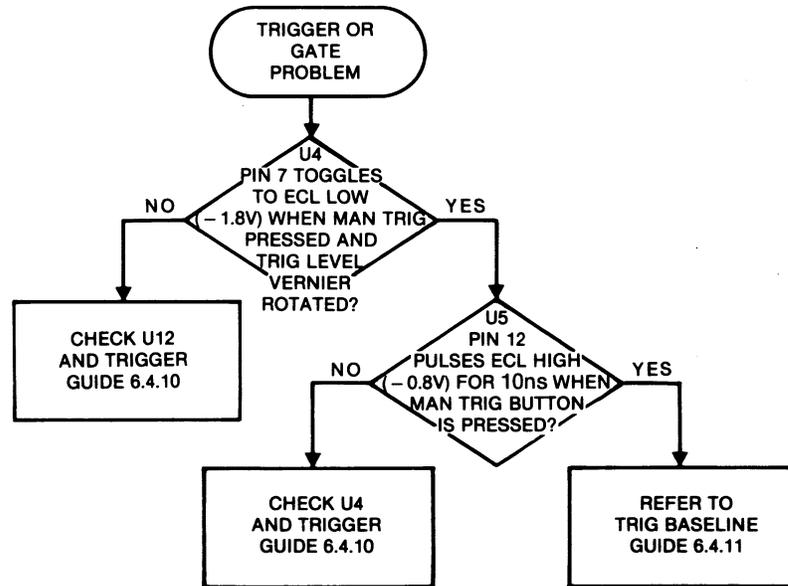

Figure 6-8. Trigger Gate Troubleshooting
3. If none of the above conditions apply, refer to figure 6-8.